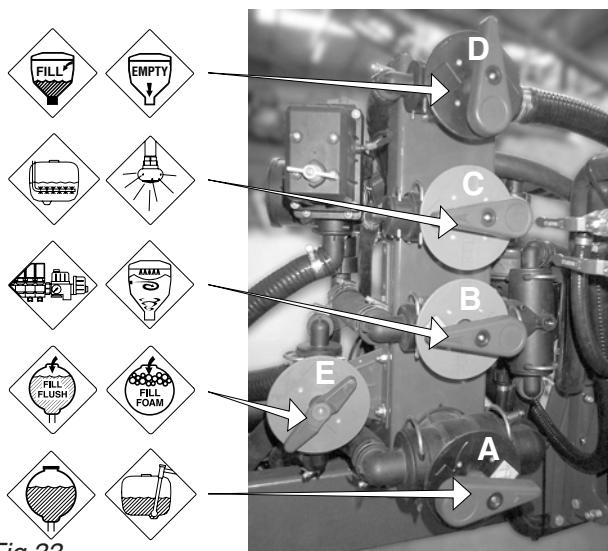

Fig 33
- 3 Suction valve (D Fig 33) on your Explorer manifold assembly is used when drawing chemicals from the drum into the Granni Pot (FILL) and when transferring from hopper to Main Tank (EMPTY) .